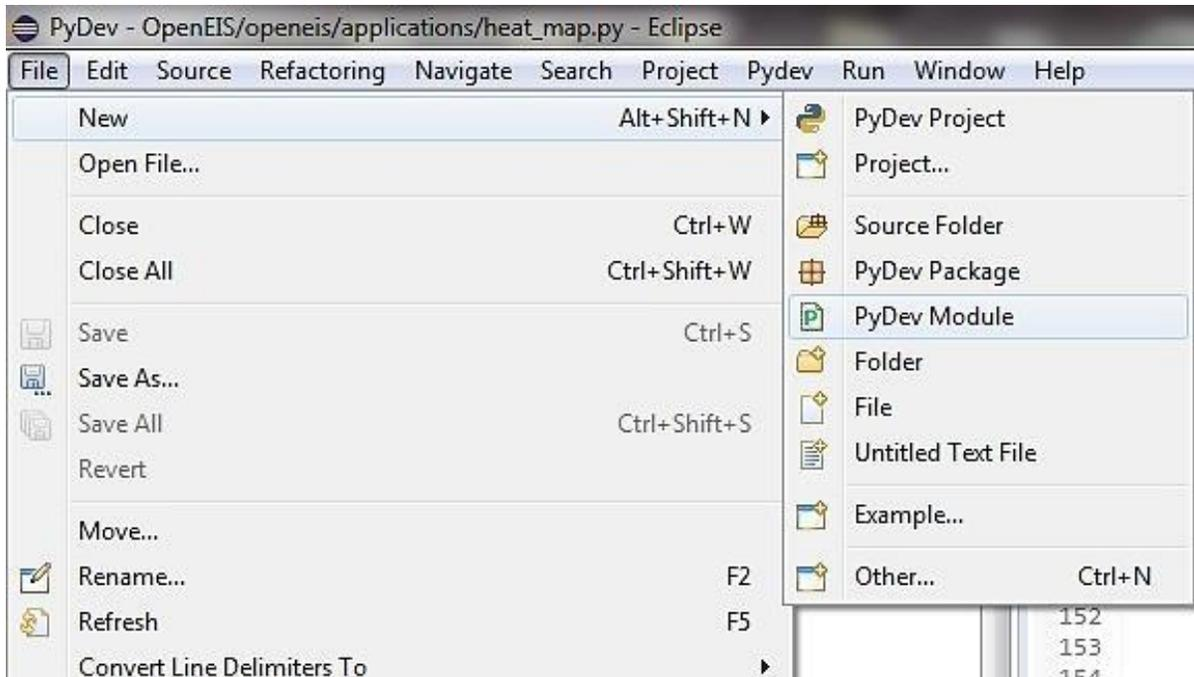

Figure 55: Creating an example driver application
- File -> New -> PyDev Module (Figure 55)